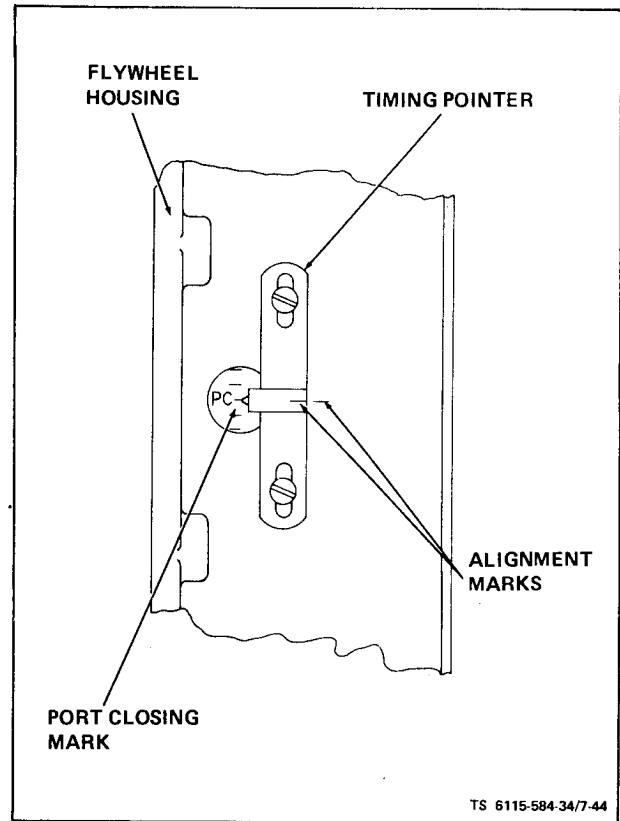

Figure 7-44. Timing Port and Port Closing Mark
(1) Turn engine flywheel to the port closing mark (PC) on the front cylinder (closest to blower wheel) compression stroke (see figure 7-44).
(f) Check timing pointer in the timing port on the side of the generator adapter (figure 7-44). If